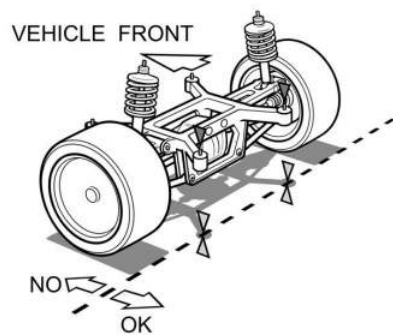
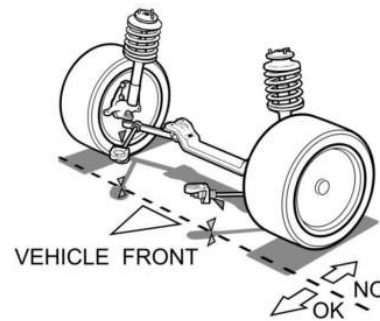

Figure 3
Figure 1
- D. Competition vehicles must retain the original OEM unibody and/or frame structure between the original most forward suspension or sub-frame mounting points and most rearward suspension or sub-frame mounting points, as seen in Fig 1 + 2 (Front) Fig 3 + 4 (Rear). This includes floor pans, bulkheads and 'A', 'B' or 'C' pillars.